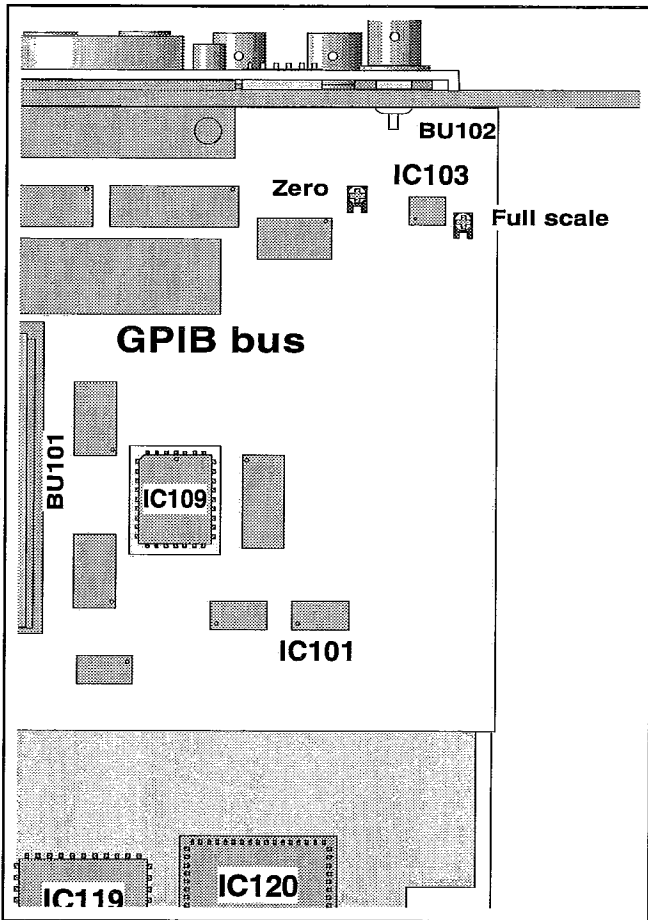

Fig. 6-7 Trimmers for the GPIB interface.
- Adjust the trimmer ZERO (see figure 6-7) until the output voltage is $0\text{ V} \pm 1\text{ mV}$.
- Adjust the trimmer FULL SCALE (see figure 6-7) until the output voltage is $4.980\text{ V} \pm 3\text{ mV}$.